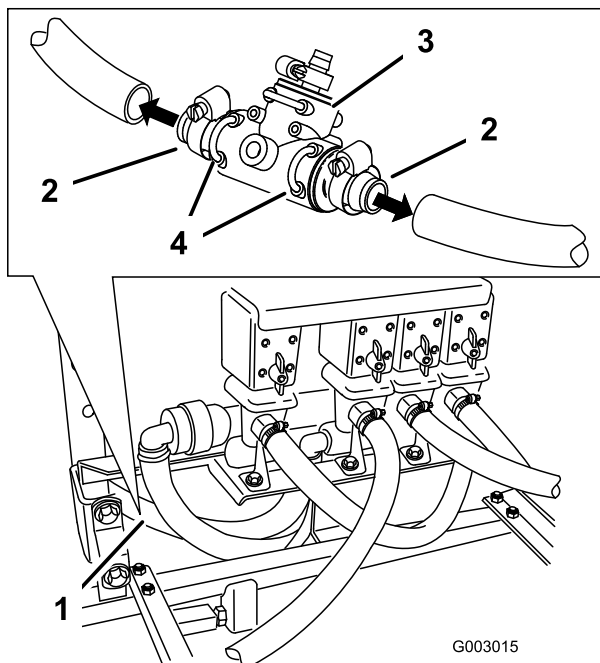

Figure 8
6. Cut the by-pass hose half way between the boom valves and the tank (Figure 8).
7. Using liquid soap on the barbs, insert an S53 tee fitting assembly into each hose and secure them using 2 large, hose clamps (Figure 8).
8. Assemble the S53 tee to the fittings, using 2 small retainers (Figure 8).